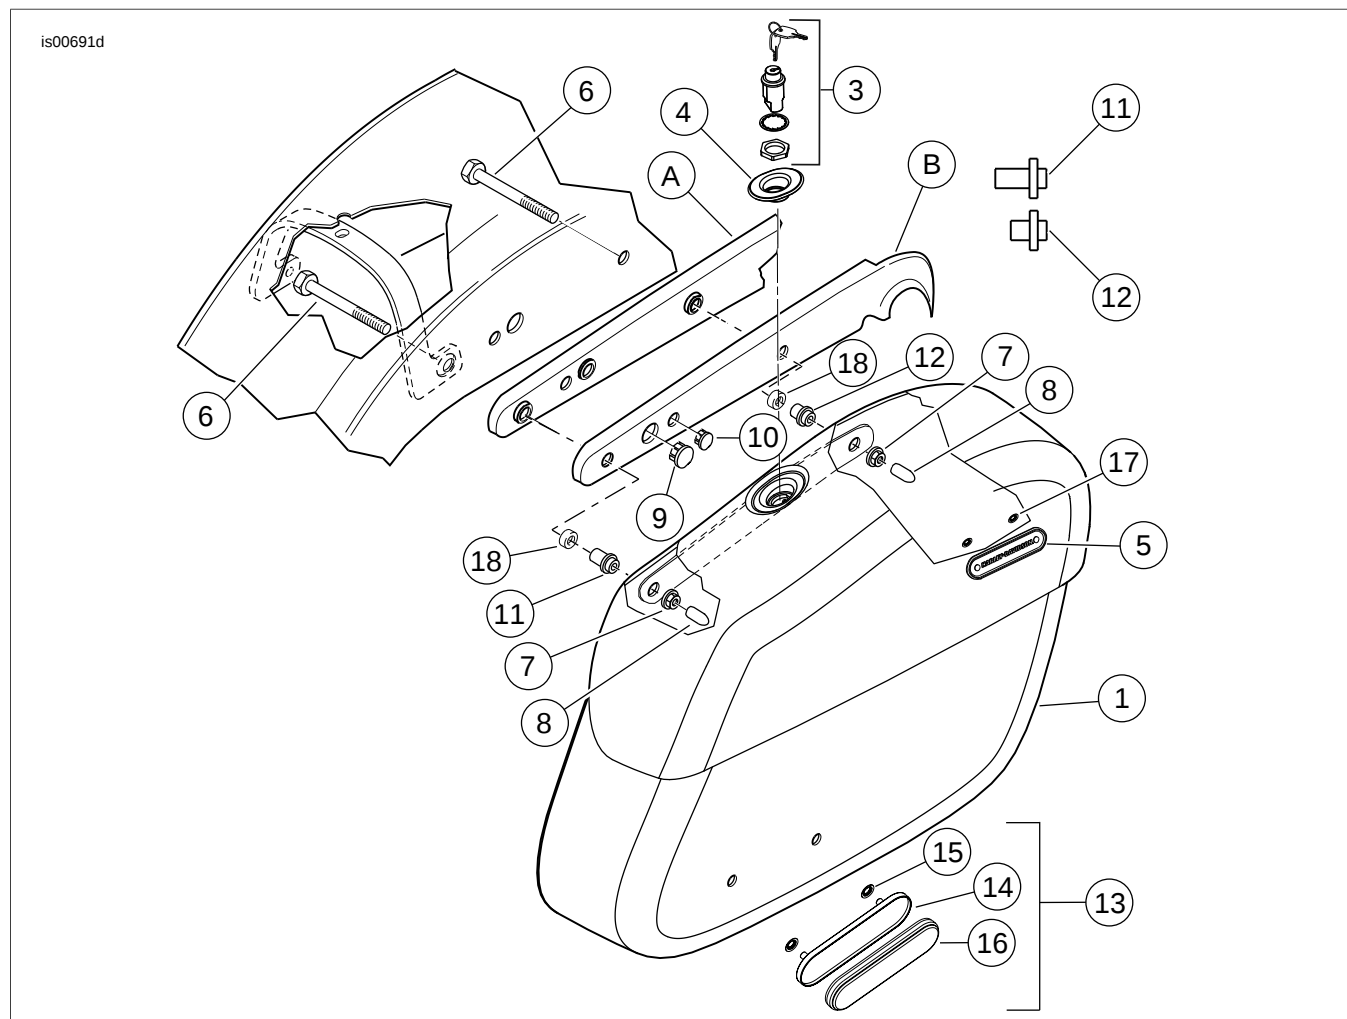

Figure 2. Service Parts: Sportster Rigid Leather Saddlebag Kit (right side shown)
See Figure 2 and Table 1.
5. See Figure 2. From the underside of the fender, install two bolts (6) from kit through the fender and into the fender support (A) and cover (B), where the two button head screws were previously removed in Step 3.
6. For kit 53050-10: Install the short bushing (12) onto the front bolt (short end toward saddlebag) and the long bushing (11) onto the rear bolt (short end toward saddlebag).
2. See Figure 2. Position reflector mount (14) on saddlebag.
7. Install reflector mount (14) on saddlebag using two push nuts (15).
8. Remove backing from adhesive on reflector (16) and install on mount (14).